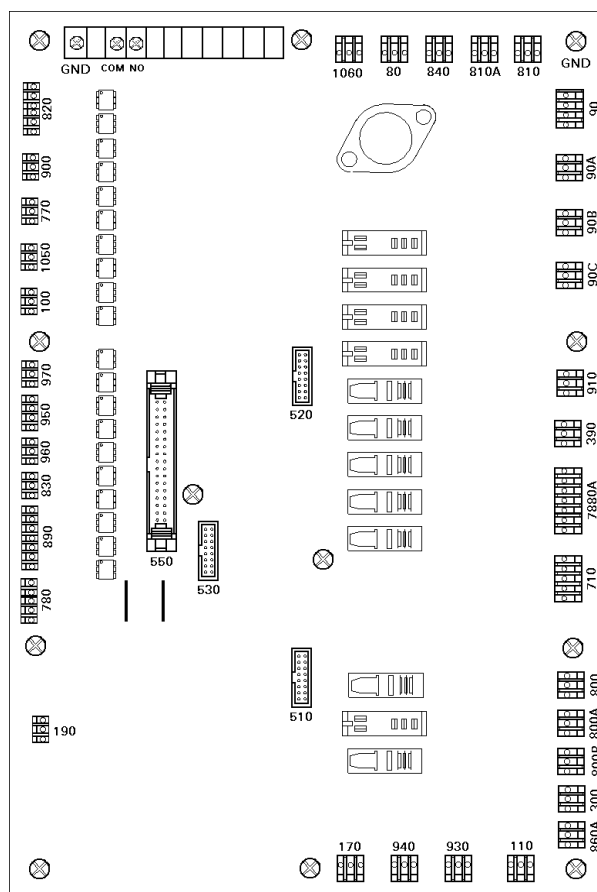

Fig. 4-6 I/O board.
7. Reconnect all leads to the I/O board at this time (refer to Fig. 4-6 for proper connections).